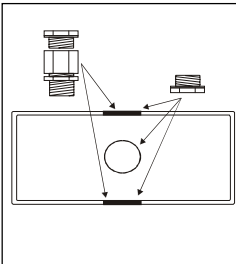

Fig. 1 : Cable Gland Positions
**If using flexible cable, suitable glands incorporating cable clamps must be fitted to the knockouts in the Controller Box. (Refer to Fig. 1).**
- 6 Make cable entry holes in the plastic and metal boxes by removing suitable knockouts (Refer to Fig. 1).